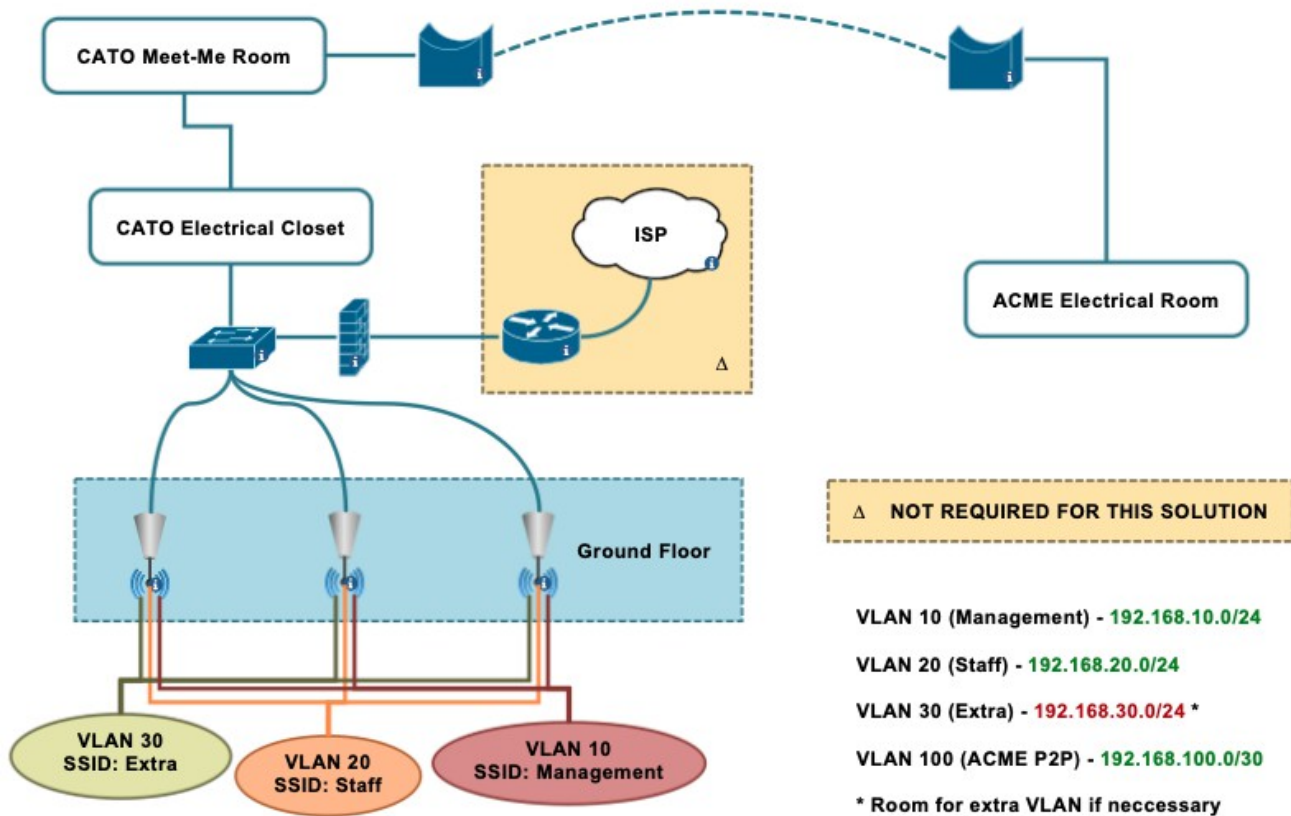

Figure 5
Proposed layer 2 and layer 3 network topology depicted in Figure 5 demonstrates room for possible future contingencies. In the suggested solution, essential elements to be configured are three (3) VLANs with VLAN 10 being used for management, VLAN 20 for ACME staff access, and VLAN 100 for the point-to-point connection. The subnets assigned to these VLANs are detailed in Figure 5. All ports should be configured as trunk ports to allow management and staff VLANs the ability to reach ACME's ISP in Landmark 2 directly. VLAN 100 network addresses should be assigned to an interface on the firewall in Landmark 3 and whatever device is used to manage traffic in Landmark 2. The
Firewall device should be configured to manage/route VLAN traffic. If, in the future, ACME comes into an agreement with CAT to allow CAT staff to use the WLAN network then VLAN 30 can be activated and configured with the subnet provided in Figure 5. If this contingency is used then the Firewall device should be configured to route VLAN 30 traffic through the ACME point-to-point subnet.